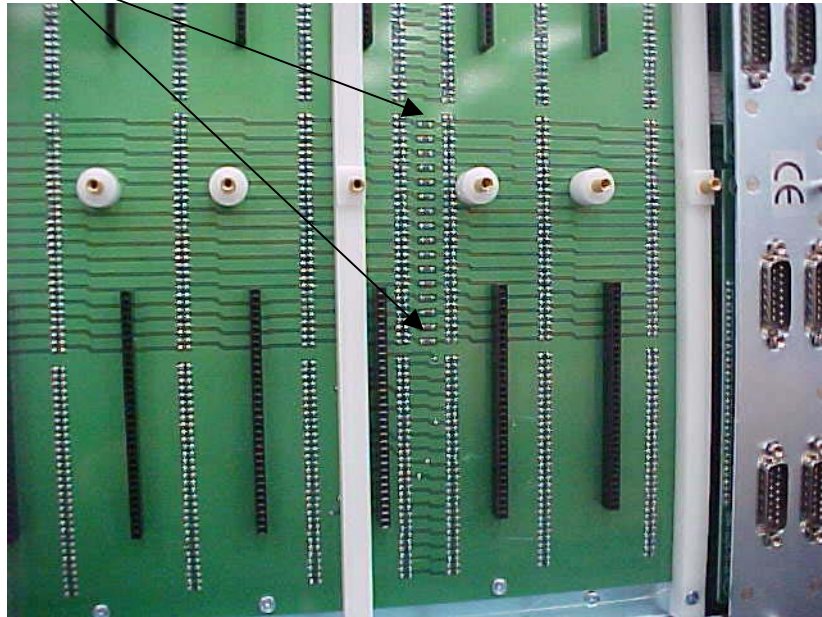

Figure 2
5. Note the 16 SMD (surface mount device) 0 ohm resistors soldered on the rear of the backplane. See Figure 2.